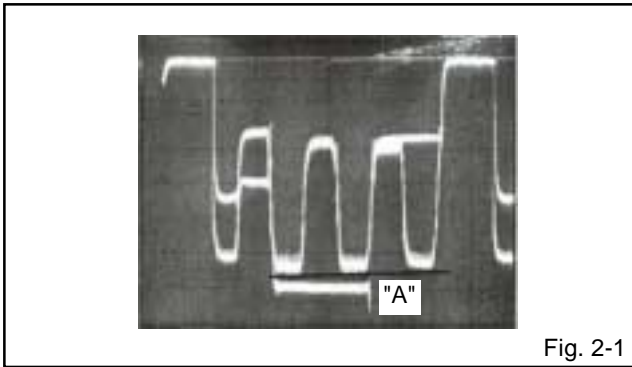

Fig. 2-1
4. Press the VOL. UP/DOWN button on the remote control until the section "A" becomes a straight line (Refer Fig. 2-1).